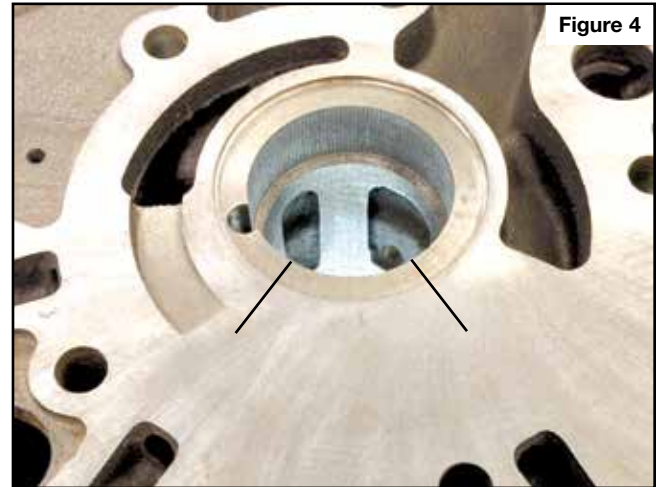

Figure 4
- Place two marks on pump cover that align with center of converter return passage and center of cooler return/lube passage (**Figure 4**).